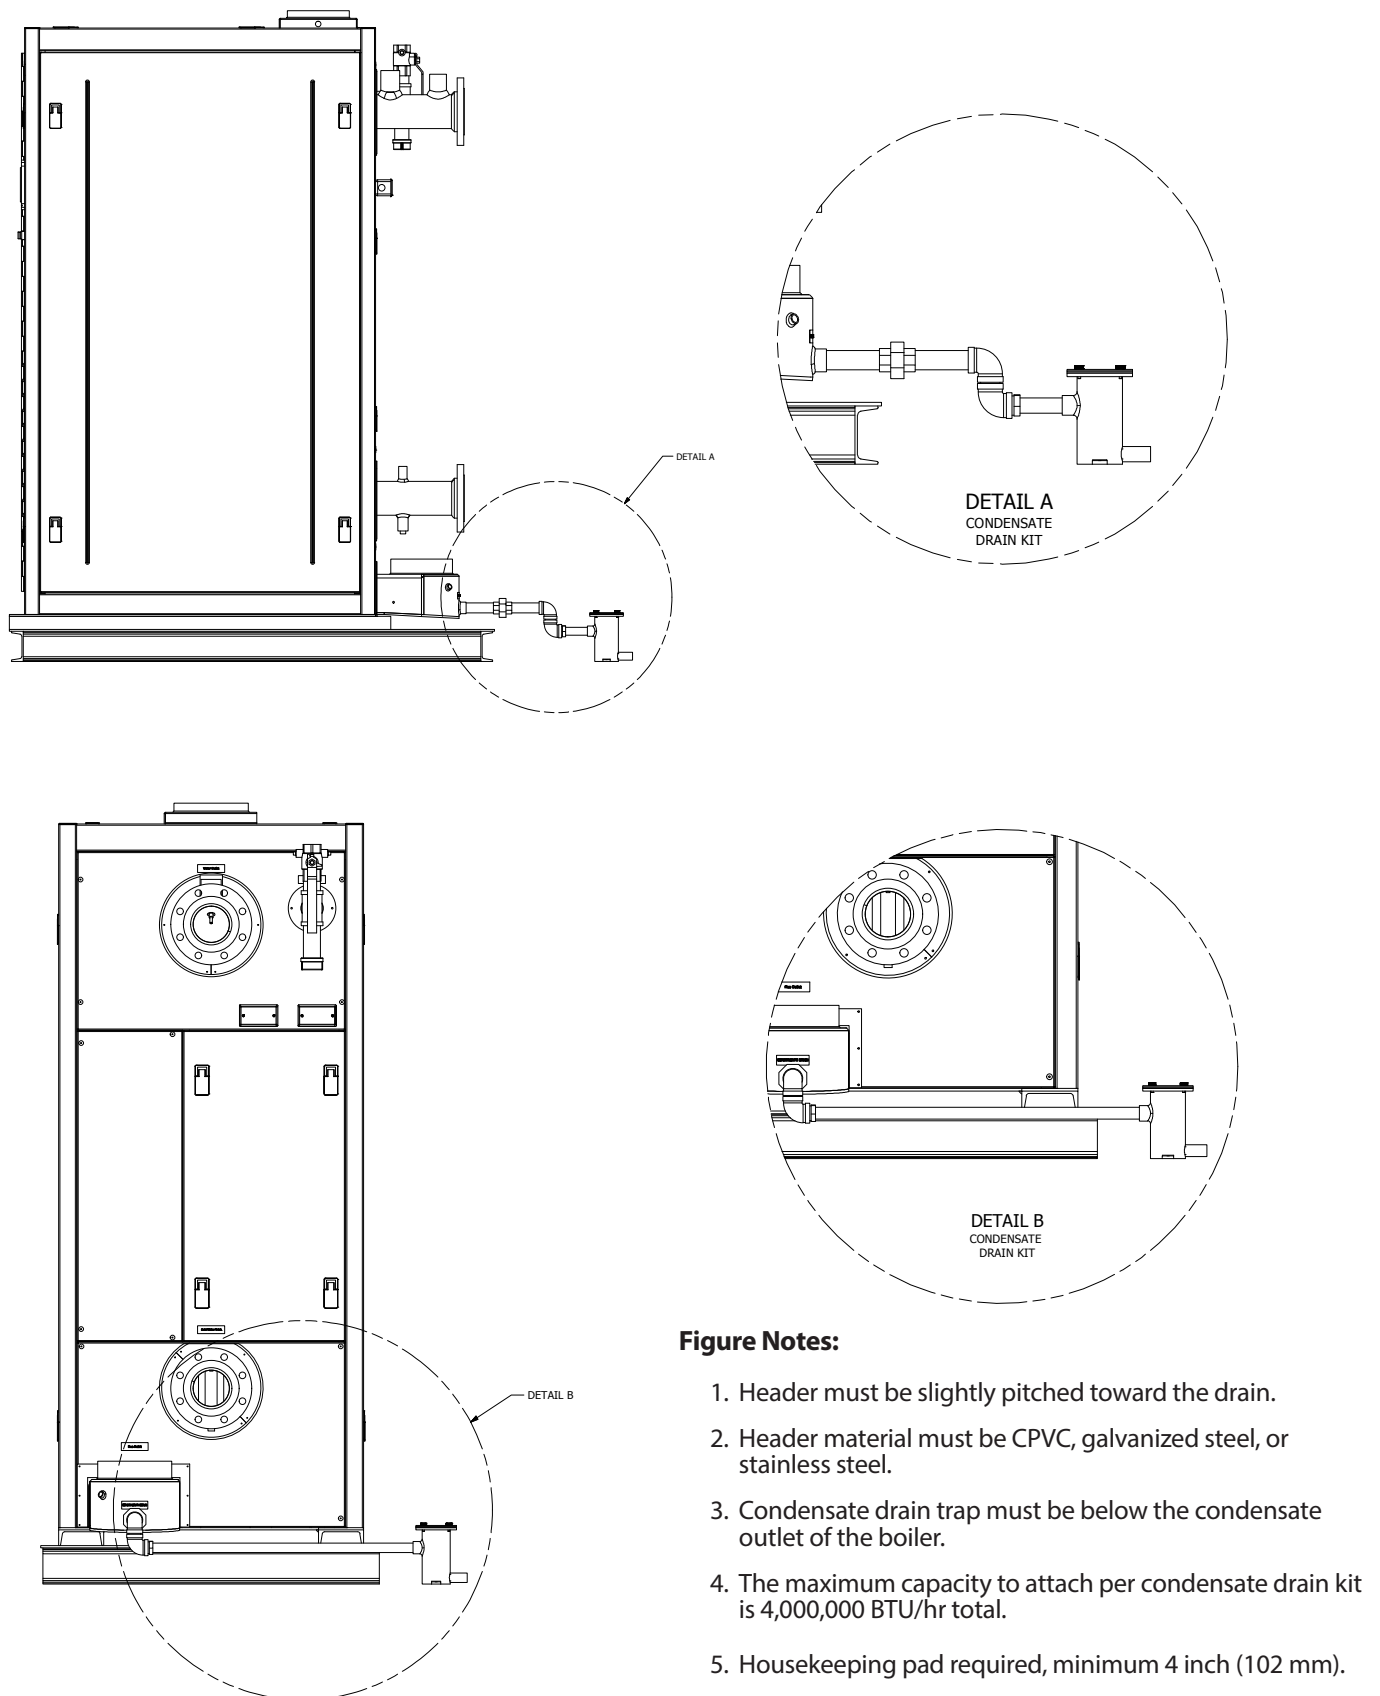

FIGURE 13 - CONDENSATE DRAIN PIPING FOR INDIVIDUAL ENDURA BOILER
The single boiler condensate drain trap is Fulton Part Number 4-57-005500. The drain trap must be configured one per boiler, with a maximum of 4,000,000 mm BTU total. (See Figures 13 and 15).
3. All piping (Figure 13) must be CPVC, galvanized, or stainless steel, and be free of leaks. Copper, carbon steel/iron pipe, or PVC are not acceptable.